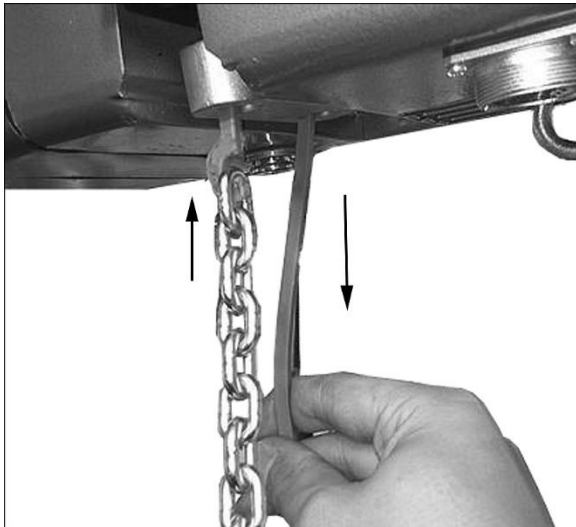

Figure 13-3
7. Connect hook of chain puller to the link on new chain (Figure 13-3), and pull chain through until it engages the sprocket. **Do not let the chain twist or bind as it is being pulled through the hoist.**
7. Connect hook of chain puller to the link on new chain (Figure 13-3) and move chain through until sprockets are engaged.
⚠CAUTION The link on the load side end must be a vertical link, as shown in Figure 13-3. If it is a horizontal link, the chain will have a twist in it.